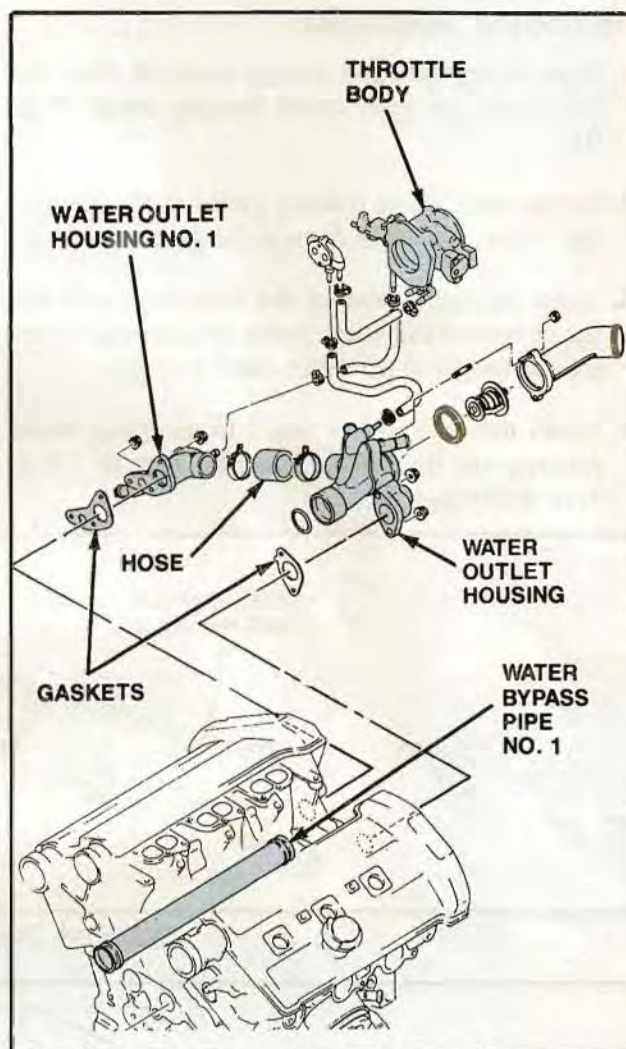

Figure 93. Water Outlet Housing Assembly
3. Subassemble the water outlet housing and water outlet No. 1 with the coolant hose and two clamps (Fig. 93).